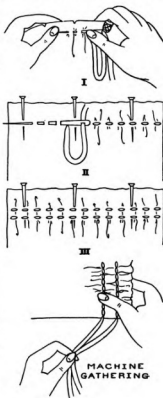
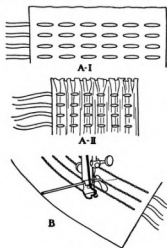

FIGURE 91
FIGURE 93
**22. Gathering** (Figure 91). — A long fine needle and a coarser thread than would otherwise be used are required for gathering. The thread should be longer than the length to be gathered. Fasten the thread with a plain knot or a secure backstitch, and make several rows of tiny running stitches (Figure 11).
*Shirring* (Figure 93).—Fasten the thread securely with a knot and make several rows of gathers (Figure 91), being sure to keep the rows of gathers equal distances apart and each stitch directly under the one above (A-I). A cardboard gage is convenient to use to keep the rows equal distances apart. One side of the cardboard is notched, one edge of each notch at a right angle to the edge. Stitches may be long
design, material, and use of the garment. It may be cut straight, bias, or circular. A straight ruffle requires more fullness than a bias ruffle, but the circular ruffle requires no fullness whatever. Divide and tack the straight or bias ruffle on garment in equal proportion as for gathering (Figure 91) and, with a thread long enough to eliminate fastening, make a single row of gathering stitches (I). Even the gathers by jerking instead of stroking (II). Finish with binding, bias tape, or French seam (III).